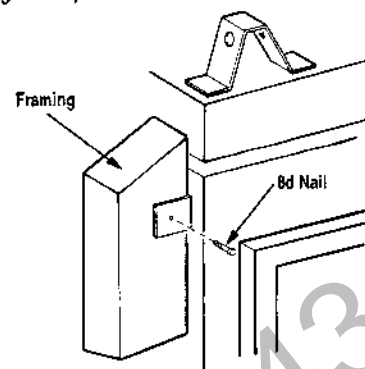

Figure 10
Step 4. Fireplace should be secured to side framing members using nailing flanges. Use 8d nails (Figure 10).